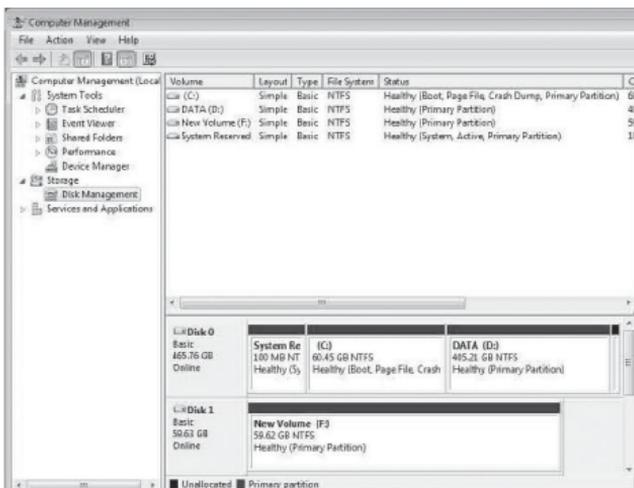

Figure 7
6. Once the hard disk drive formatting procedure is completed, the hard disk drive will be recognized as a **New Volume**. The **New Volume** drive letter may vary, see **Figure 7** in the next page.